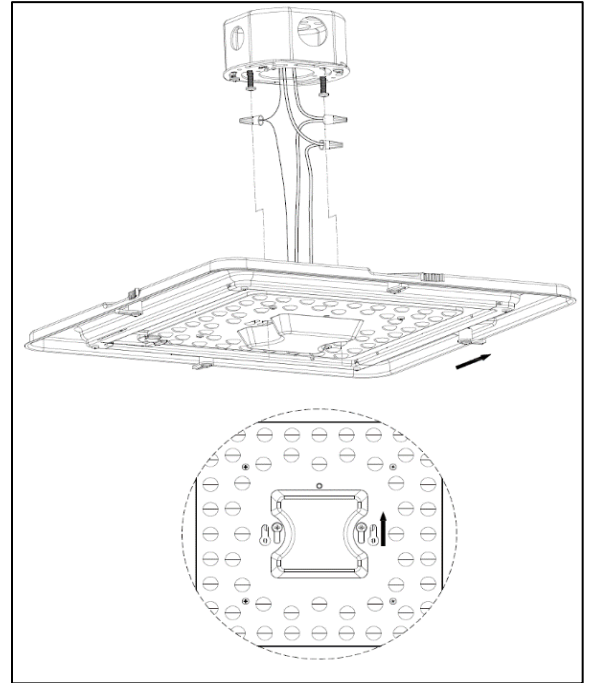

Figure 10
5. Hold housing assembly (2) in one hand and with the other hand position wires up and into Junction box. (See *Figure 10*).
6. Slide the housing assembly (2) into keyhole's lock position. (See *Figure 10*).